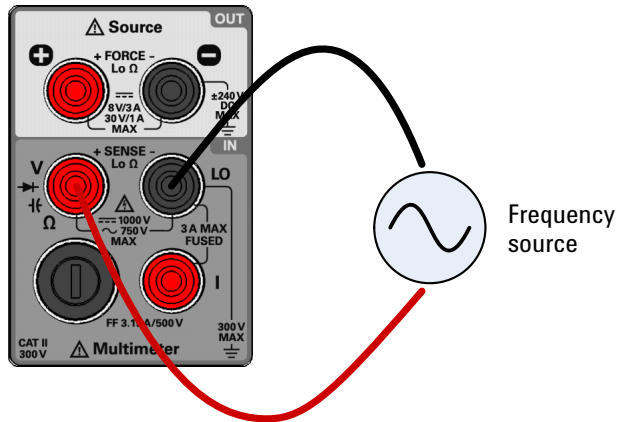

Figure 2-5 Terminal connections for frequency, pulse width, and duty cycle measurements via the voltage path
- 2 Connect the red and black test leads to input terminals **V** (red) and **LO** (black) respectively as shown in **Figure 2-5**.
- 3 Connect the red and black test leads to input terminals **V** (red) and **LO** (black) respectively as shown in **Figure 2-5**.